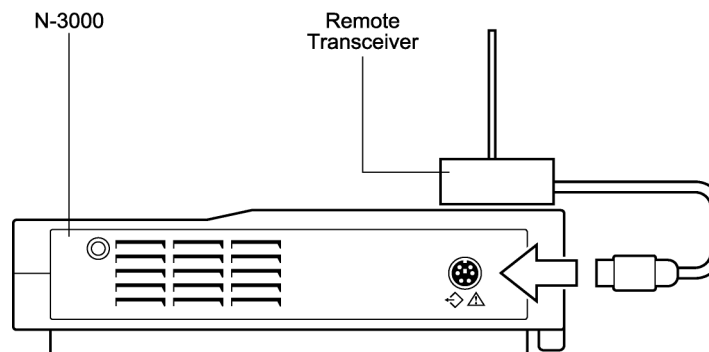

Figure 31: Bedside Station Radio-Link Connection
2. Make sure the N-3000 is off and then connect the cable attached to the remote transceiver to the serial port connector on the rear panel of the N-3000 as shown in Figure 31. The N-3000 must be configured for 3.3 Vdc power on pin 6 of the serial port connector. Communication must be set for EIA-232 at a baud rate of 2400 for central systems set to SpO₂ only. All other systems must be set to a baud rate of 9600. Refer to the N-3000 service manual for directions for setting up the N-3000 communication features.